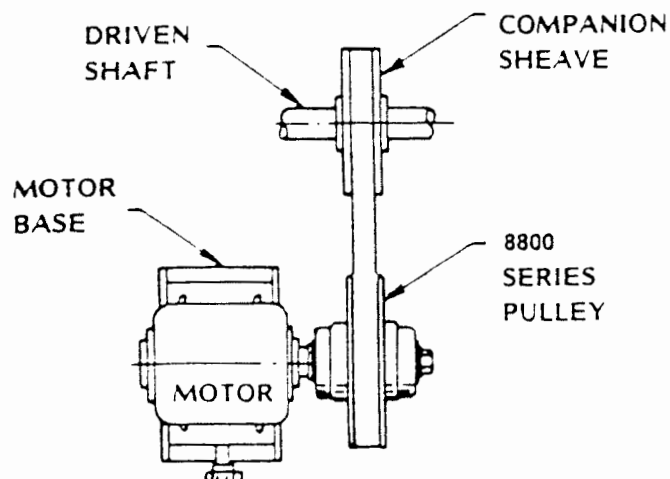

FIGURE 1
3. POSITION MOTOR/BASE SUB-ASSEMBLY ON YOUR EQUIPMENT — Mount pulley model 8800 on the motor shaft and tighten drawbolt just enough to prevent pulley from slipping when it is turned by hand.* Turn the motor base handwheel counterclockwise until the slide is at the end of its travel, then back off approximately 1/2" . . . Now place the motor/base/drive sub-assembly in the approximate position it will take on your machinery. Place the belt over the 8800 pulley and companion sheave. (See Figure 1)